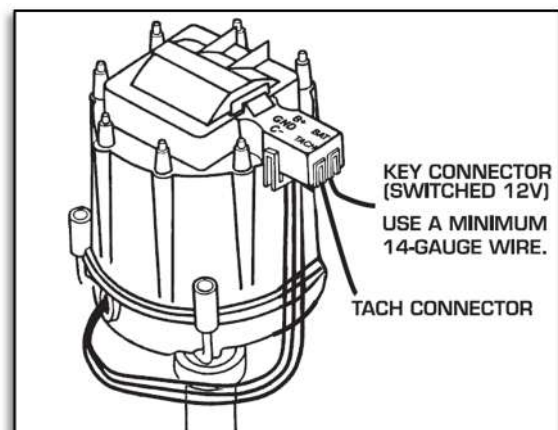

Figure 2. General wire installation
12. Connect a switched 14-gauge wire from a 12 volt source to the B+ terminal of the Distributor Cap (Figure 2). (Be sure the 3-pin connector from the module is connected to the cap).